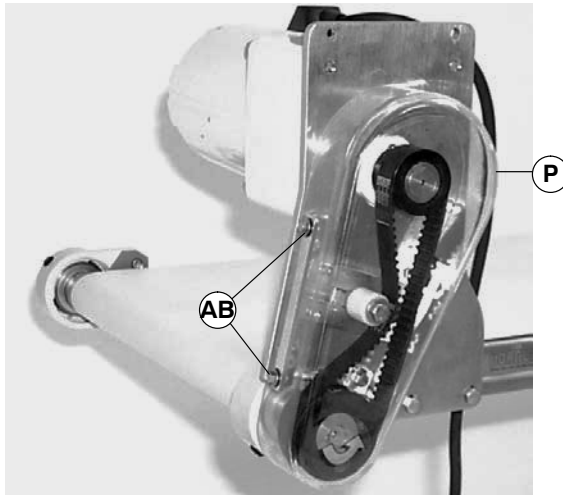

Figure 8
NOTE: Do not over-tighten screws (AB of Figure 8).
9. Install cover (P of Figure 8) and tighten four (4) screws (AB) to 35 in-lb (4 Nm).